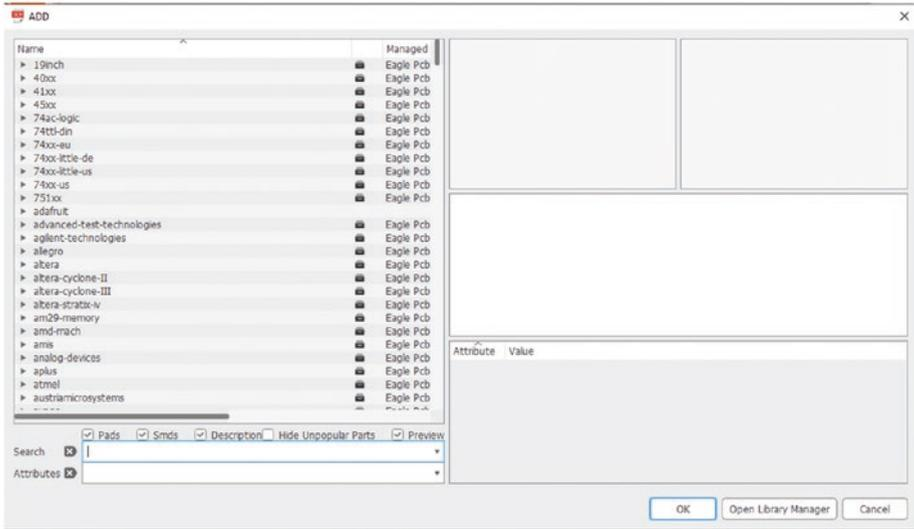

Figure 5-23. Go to the ADD window again
10. Press escape again, which will open the ADD window again. See Figure 5-23.